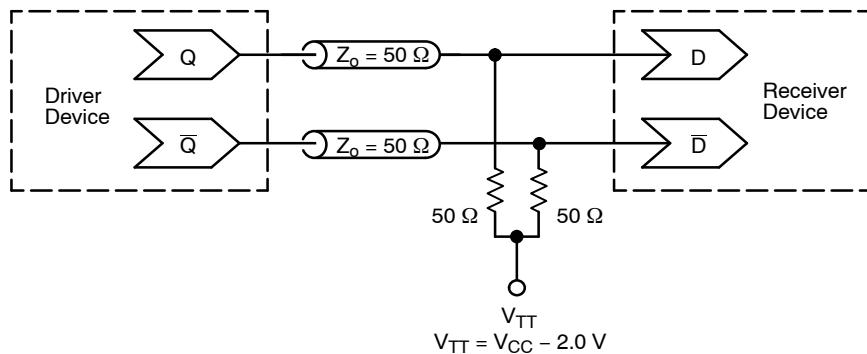
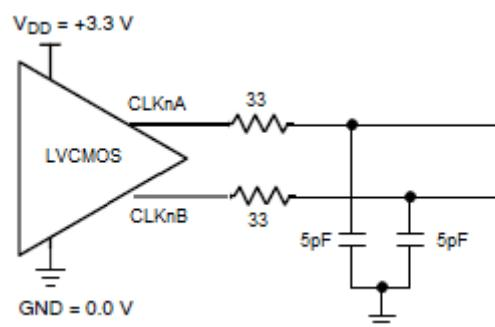

Figure 9. Typical Termination for LVPECL Output Driver and Device Evaluation
Figure 11. Typical LVC MOS Output Test Setup for Evaluation
13. Measured by using a 25 MHz crystal as clock source. All LVPECL outputs are loaded with an external $R_L = 50\ \Omega$ to $V_{DDO} - 2V$ (Figure 9); LVC MOS outputs loaded with $R_S = 33\ \Omega$, $C_L = 5\ pF$, 5" 50 Ω trace, (Figure 11).